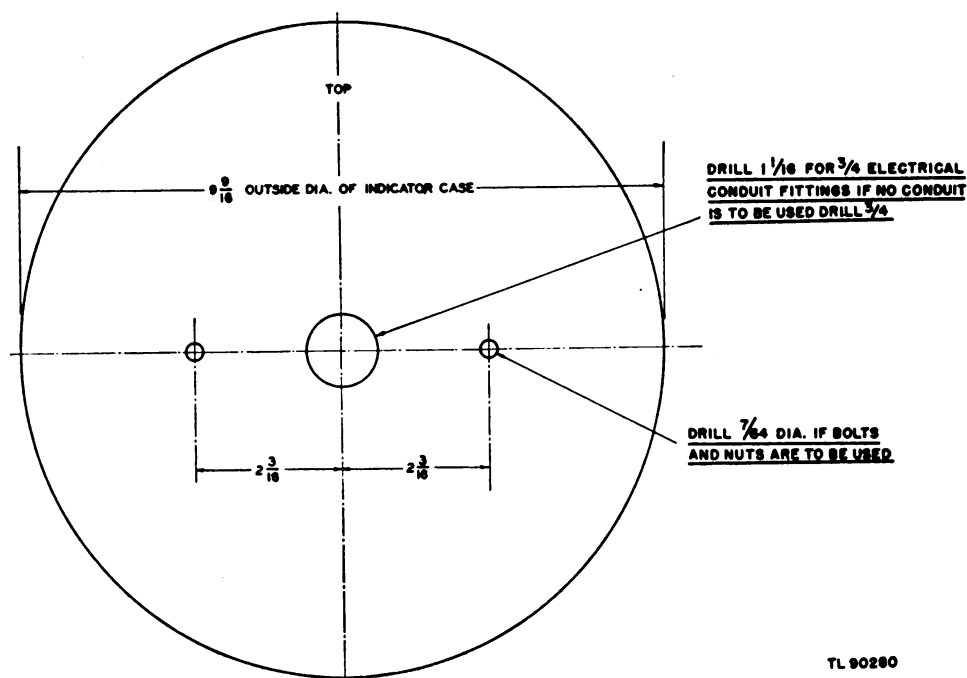

Figure 7. Indicator ML-117 or ML-117-B, mounting dimensions.
12. INSTALLING INDICATOR ML-117 OR ML-117-B (fig. 7). a. Location.
b. Mounting. (1) Indicator ML-117 or ML-117-B is designed for mounting against a vertical surface. Mounting holes (fig. 7) for bolts or screws are provided in the partition below the dial cover.